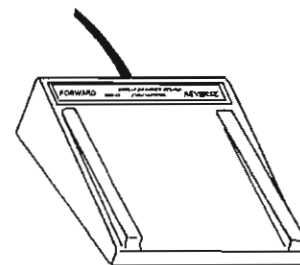

Figure 2-19. Footswitch.
i. To use the footswitch, depress either the forward or reverse footswitch bar (fig 2-19). To reactivate the handpiece fingertip controls, simply depress the blue footswitch selector on the console. The switch will no longer be illuminated.